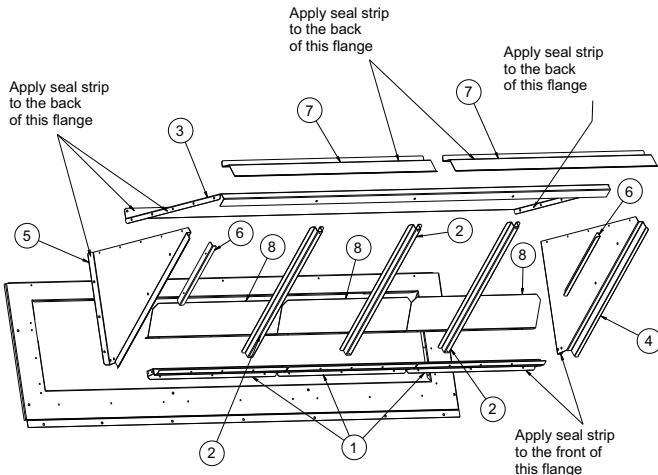

Fig. 26 — Hood Part Identification and Seal Strip Application Areas
To assemble the outside air hood (see Fig. 26 for hood component locations):
6. Apply seal strip to mating flange of the hood (see Fig. 26).